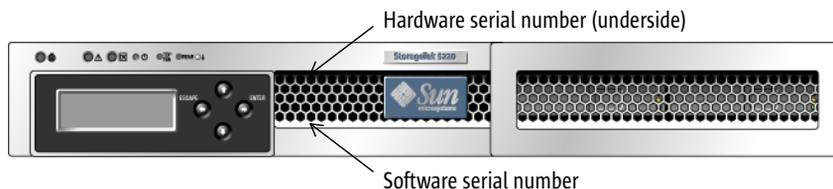

FIGURE 1-1 Sun StorageTek 5220 NAS Appliance, Front
- FIGURE 1-1 Sun StorageTek 5220 NAS Appliance, Front 3
The Sun StorageTek 5220 NAS Appliance is the basic unit. FIGURE 1-1 shows the front of the appliance. You need the software serial number for any calls for service and for adding licenses and you need the hardware serial number if you decide to expand the system.